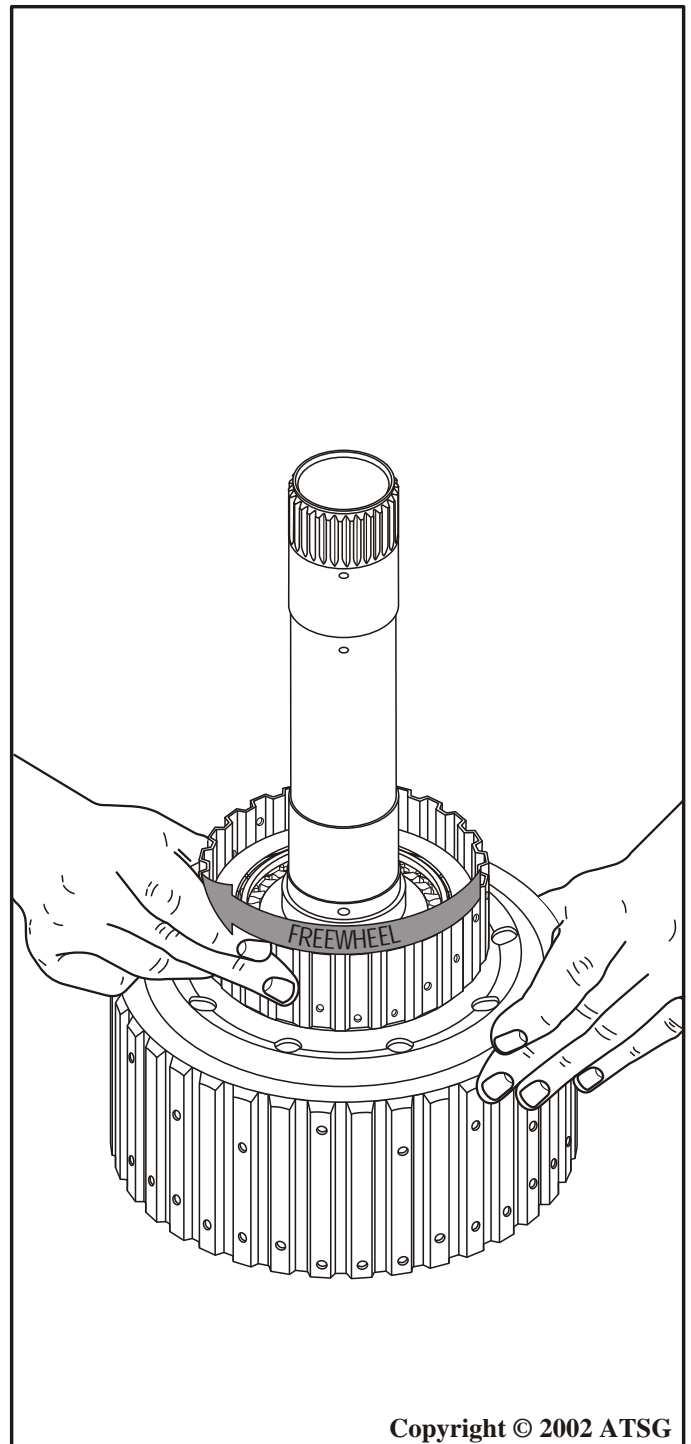

Figure 110
11. Ensure now that the outer race freewheels in a clockwise direction and holds in the counter clockwise direction, as shown in Figure 110.
17. Check for proper sprag freewheel one more time referring to Figure 110.